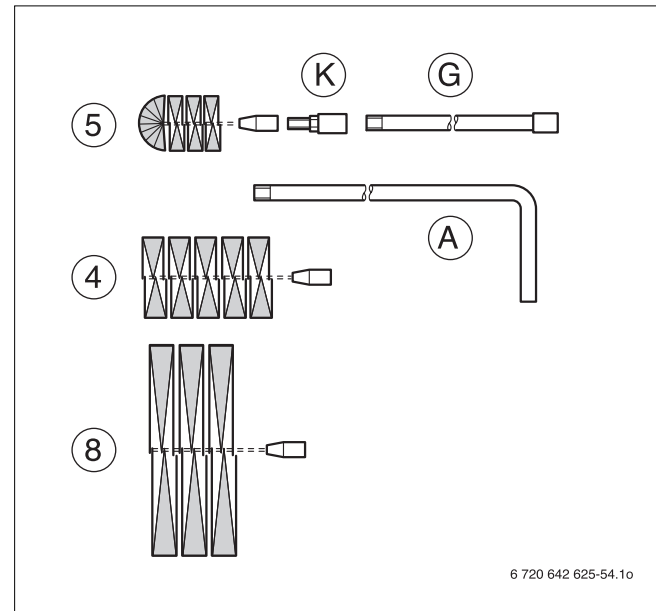

Fig. 63 Cleaning brushes
- ▶ Clean the top and bottom flue gas passages with cleaning brushes #4 and #5 (→ Fig. 63).
The various brush types available are shown in Fig. 63.